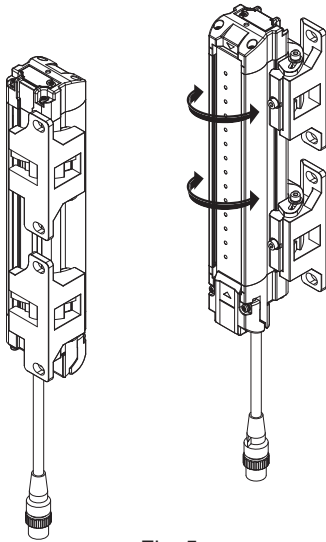
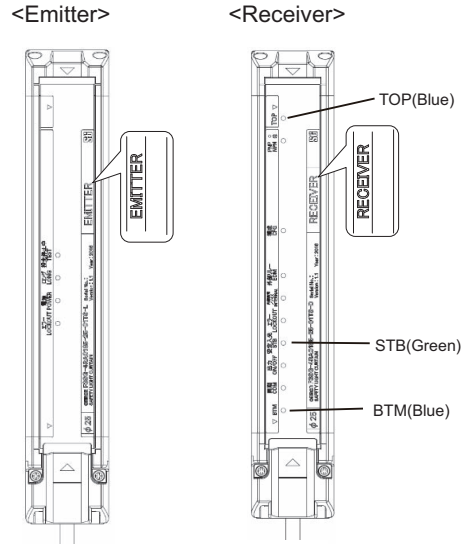

Fig. 5
Fig. 6
Move the emitter from side to side (Fig. 5) to align it to a center position where the Stable-state indicator (STB, green) of the receiver is illuminated while checking the state of the top and bottom beams with the TOP indicator (TOP, blue) and BTM indicator (BTM, blue) of the receiver. (Fig. 6)
5. Securely tighten the Screw (1) to fix the Top/Bottom Adjustable Bracket to the housing of the F3SG-R. The recommended torque to tighten the Screw (1) is 3.0 N•m. (Fig. 6)